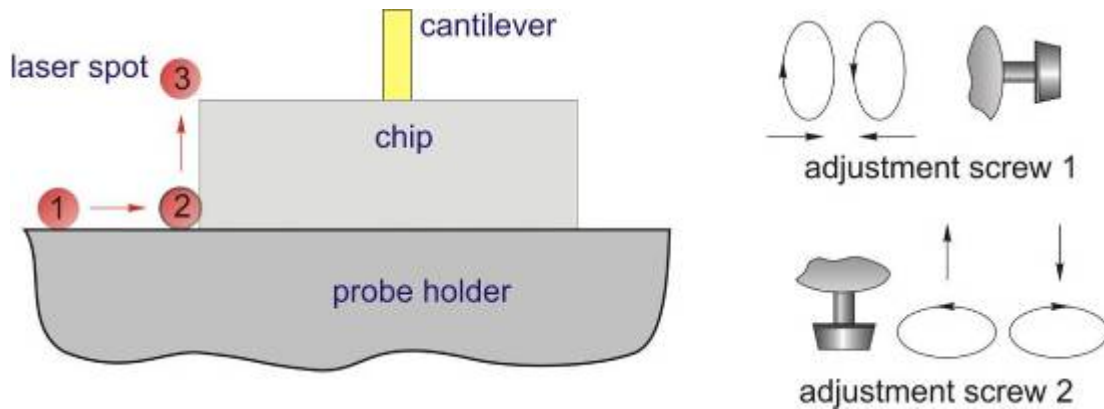

Fig. 2-47
3. If the spot is positioned near the probe holder edge, it should be moved to the chip front edge using adjustment screws 1 and 2 as shown in Fig. 2-47.
- The undistorted (pristine) elliptical laser image is seen initially on the paper screen, i.e. the laser beam passes just near the probe holder edge, for example, to the left of the chip (as shown schematically in Fig. 2-47);
- Turning adjustment screw 1, move the spot laterally along the edge until the laser image on the screen starts to distort, i.e. when the beam starts to hit the chip left edge. This step is illustrated in Fig. 2-47 as a travel from location 1 into location 2. Stop turning the screw when the laser image is slightly distorted;
- Next, start turning adjustment screw 2 counterclockwise to move the spot along the chip side edge. Stop turning when the laser image distortion vanishes. This corresponds to the spot location 3 near the chip front left corner (Fig. 2-47);